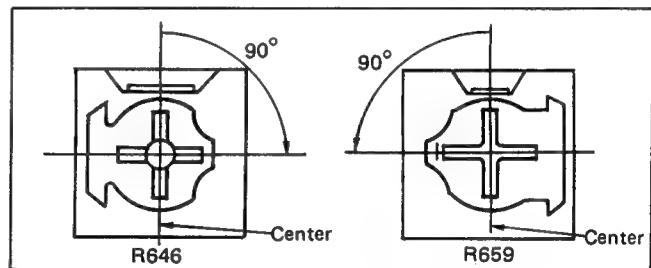

Fig. 36
- Adjust R-Y Gain (R646) and B-Y (R659) controls shown in Fig. 36.